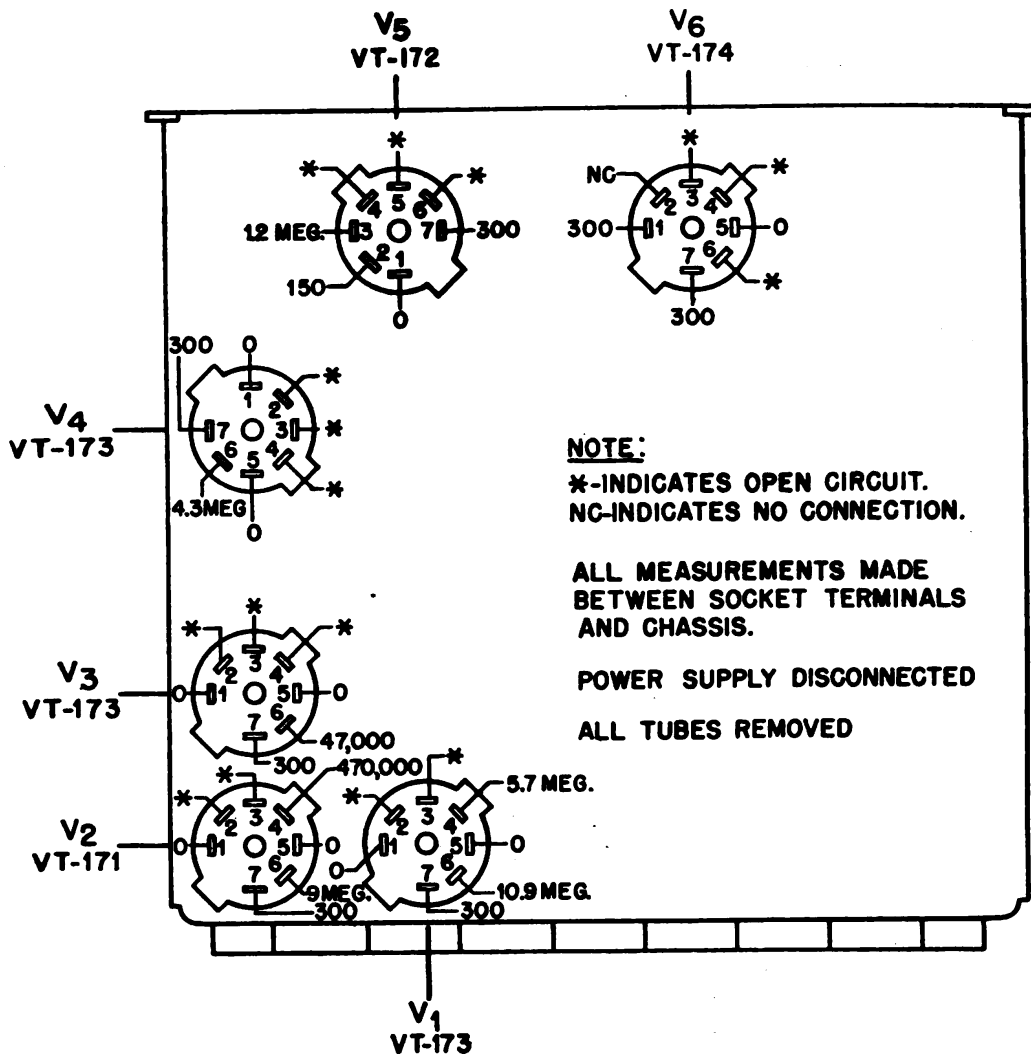

FIGURE 20—RADIO RECEIVER BC-728-A, SOCKET TERMINAL RESISTANCE VALUES
a. Normal resistance values obtained by point to point measurements on Radio Receiver BC-728-A in a satisfactory condition are indicated in the following charts. Use of this data in connection with similar measurements on faulty equipment, combined with a logical circuit analysis, will frequently disclose the source of trouble in an improper operating or dead receiver. Take the readings under the following conditions, and these must be reproduced exactly if comparison measurements on a faulty unit are to be effected. See Figure 20 for socket terminal resistance values.
(2) Remove cover from receiver chassis to make socket terminals accessible.
(3) Disconnect the speaker-connector plug from the speaker-connector receptacle.
(4) Turn switch to "OFF" position and remove power plug connector from power supply receptacle. Disconnect battery leads from Battery BB-54-A.
(5) Make certain that the headset plug is not inserted in the jack.
(6) All readings can be taken on the voltohmmeter unit of Signal Corps Test Set I-56-(*). The meter scale used should be the one giving the greatest usable deflection.